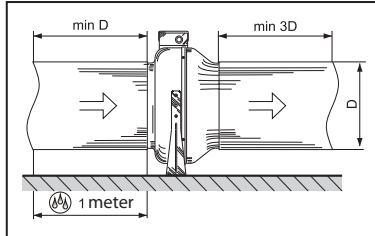

Fig. 6
2. Connect an air duct of the minimum length on both sides of the fan for any mounting position according to fig. 6.